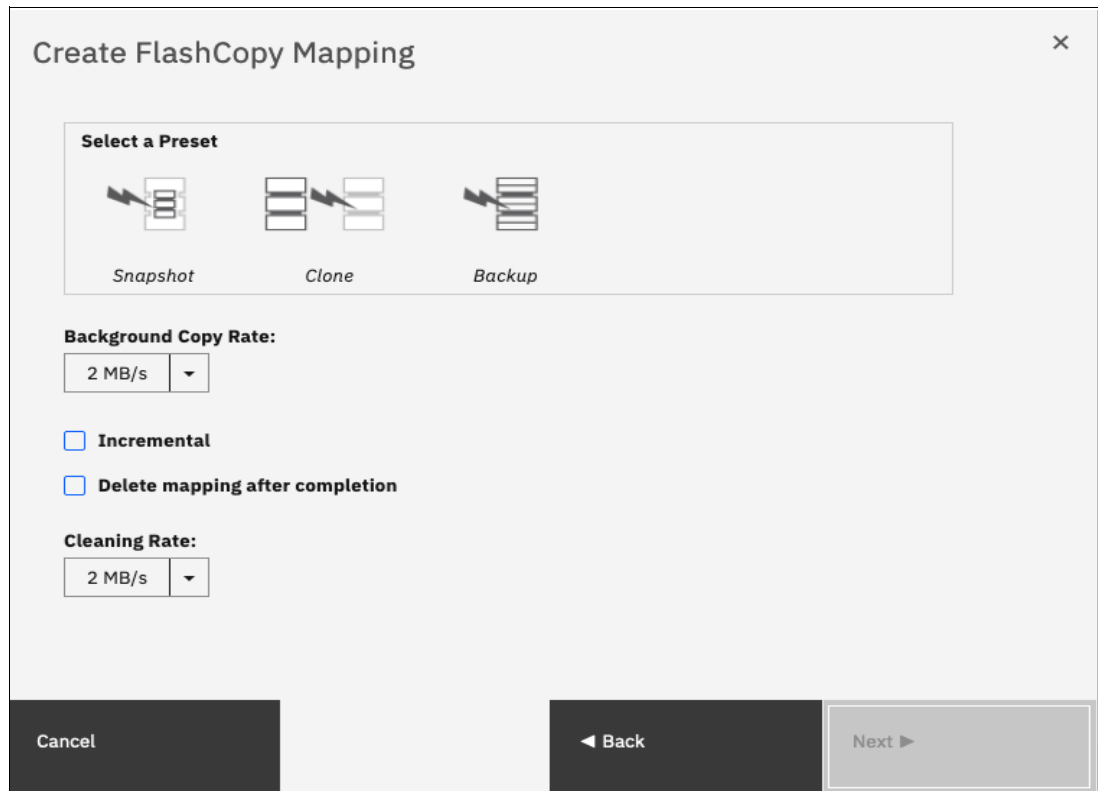

Figure 10-25 FlashCopy mapping preset selection
3. In the next window, select one FlashCopy preset. The GUI provides the following presets to simplify common FlashCopy operations, as shown in Figure 10-25 on page 685. For more information about the presets, see 10.4.1, “FlashCopy presets” on page 676: